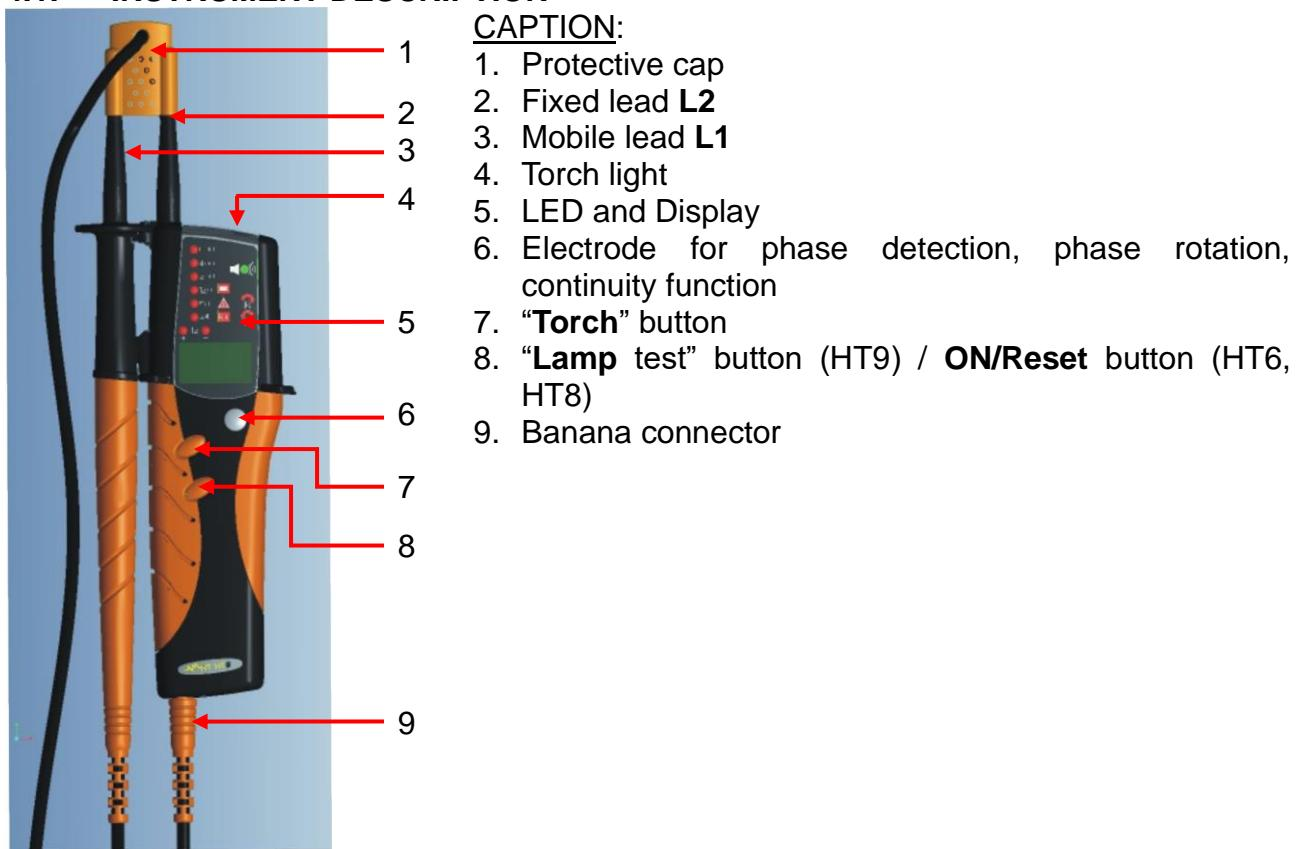

Fig. : 1: Instrument description
5. In case of measurements in environments with poor light, press the Torch button (see Fig. : 1 – Part 7) to activate the white LED pointer.
1. Touch the “Electrode” with a finger (see Fig. : 1 – Part 6).
4. In case of measurements in environments with poor light, press the Torch button (see Fig. : 1 – Part 7) to activate the white LED pointer.
1. Touch the "Electrode" contact with a finger (see Fig. : 1 – Part 6).
4. In case of measurements in environments with poor light, press the Torch button (see Fig. : 1 – no. 7) to activate the white LED pointer.
1. Touch with the tip L2 (see Fig. : 1 - Part 2) the cathode and with the tip L1 (see Fig. : 1 - Part 3) the anode → Rx LED is on and the buzzer beeps
3. In case of measurements in environments with poor light, press the Torch button (see Fig. : 1 – Part 7) to activate the white LED pointer.
1. Use the L2 lead (see Fig. : 1 – Part 2) to touch the glass or the supply socket of the lamp
2. Press and hold the “Test” button (see Fig. : 1 – Part 8) for the whole duration of the test